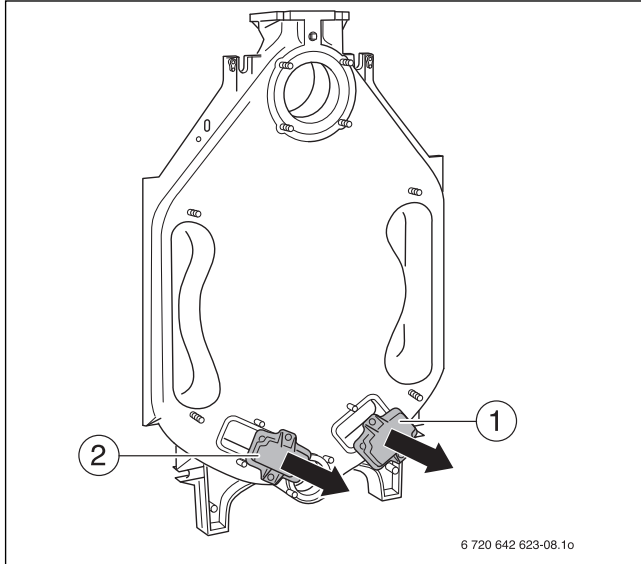

Fig. 10 Removing the cleanout cover.
- ▶ Unscrew cleanout cover on rear section (→ Fig. 10, [1 and 2]).